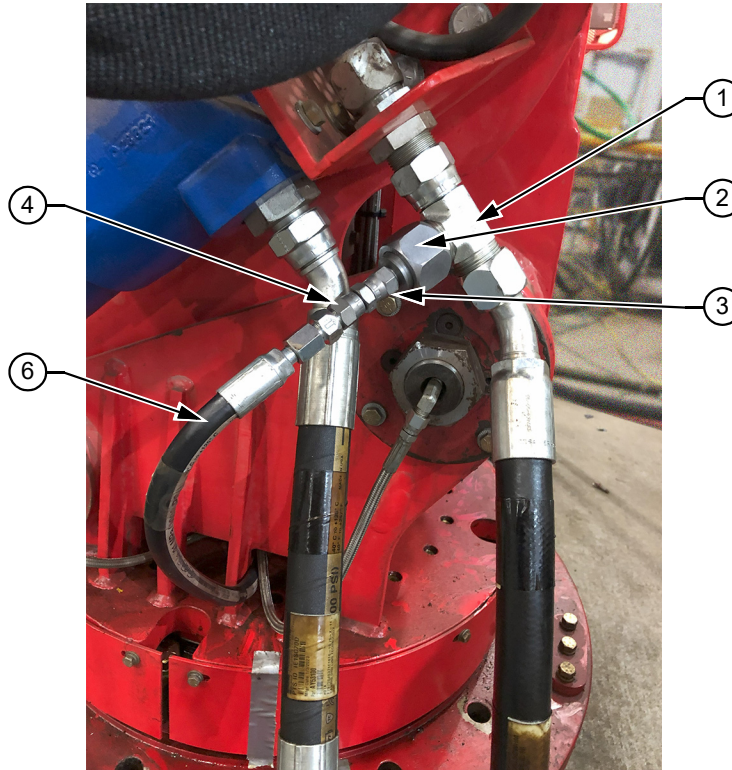

Figure 5: Wrench hydraulic return line with fittings
5. Install fittings items 1, 2, 3 and 4 to wrench hydraulic return line as shown in Figure 5. Ensure the flow arrow on item 4 is pointing away from the filter towards the HPU return.
6. Attach hose assembly, item 6, to the case drain port installed in step 4 and to wrench return line fittings installed in step 5. Route hose through the pivot assembly as shown in Figure 4 on page 5 and Figure 5.